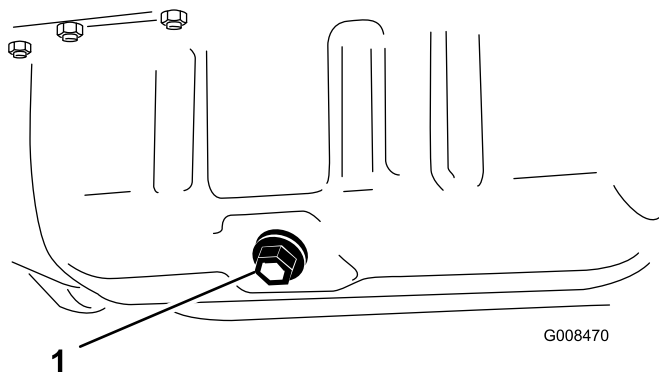

Figure 40
2. Open the hood. Set drain pan under the oil pan and in line with drain plug (Figure 40).